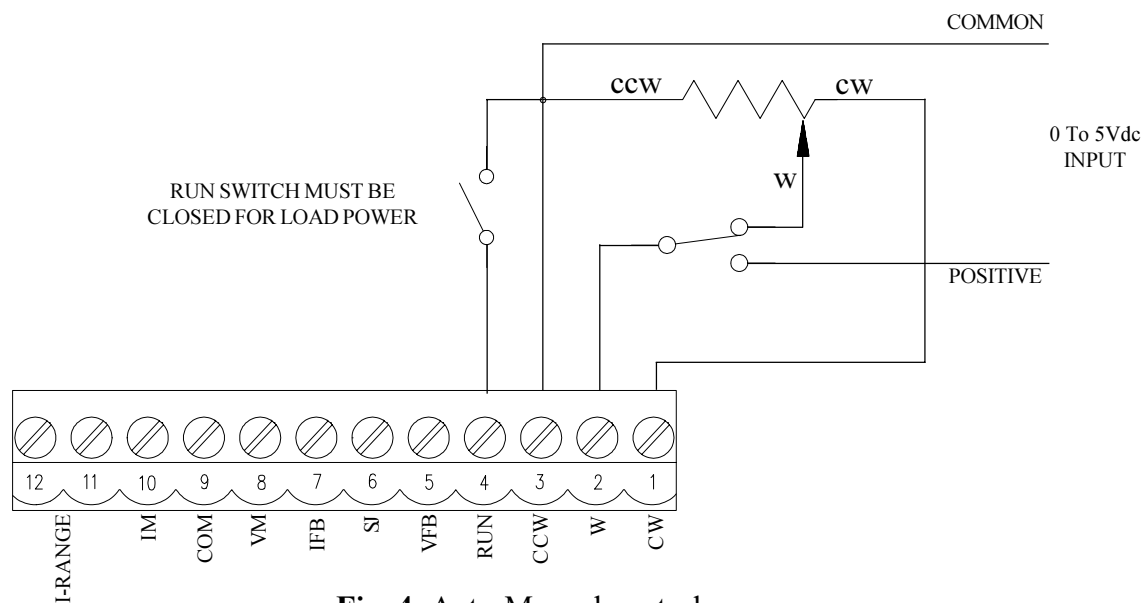

Fig. 4. Auto-Manual control.
9. DC Voltage or potentiometer control: The controller will accept 0 to 5Vdc, or a potentiometer command signal input. A 1K potentiometer is recommended for optimum linearity, up to 20K is permissible. Other voltage command signals may be specified at time of ordering. Figure 4, on page 4 shows how a controller may be operated from a potentiometer or a 0 to 5Vdc signal using a form C switch as an auto-manual operation.